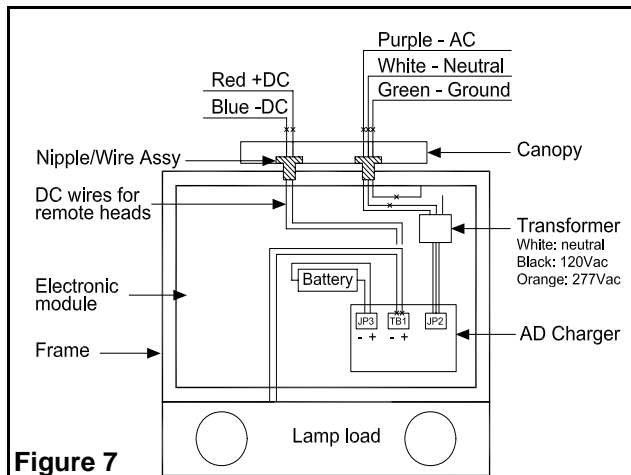

Figure 7
2. **Electrical connections:** Using the sealed AC nipple/wire assembly (3 wires), connect one end to the transformer leads, inside the enclosure, and the other end, to AC line voltage inside the junction box. Connect the white lead to neutral and the green lead to ground. Connect the purple lead to AC line voltage and to appropriate transformer lead (See fig. 7 for color code).
For models with DC remote capacity, the sealed DC nipple/wire assembly (2 wires) will also need to be installed. One end connects to the AD charger terminal block, inside the enclosure, and the other end to DC output inside the junction box. Connect the red lead to positive, and the blue lead to the negative of the remote DC output (See fig. 7).